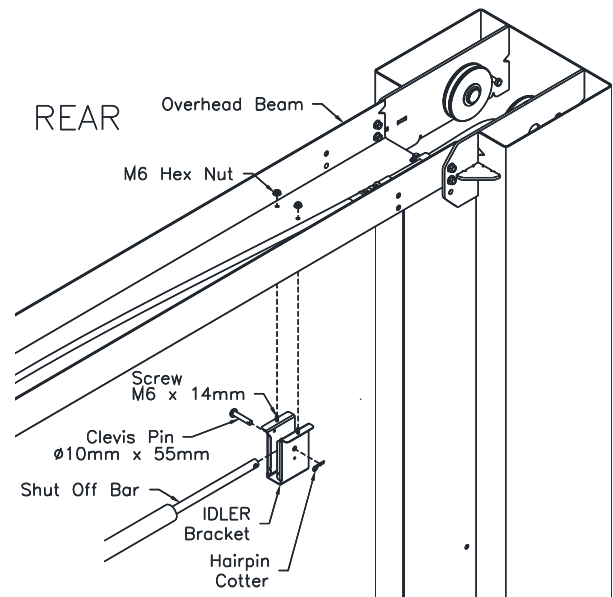

Fig. 8 – Overhead Bracket Idler Side
- 28) Install the Idler Bracket to the Overhead Beam using the rear set of holes on the Idler Side of the lift. **Fig. 8.** **Note the orientation of the Idler Bracket. The narrow slot needs to be facing towards the Power Column.** Slide the Shutoff Bar over the limit switch on the Power Side. Pin the Shutoff Bar to the Idler Side Bracket with the 10mm dia. x 55mm Lg. clevis pin & hairpin cotter.